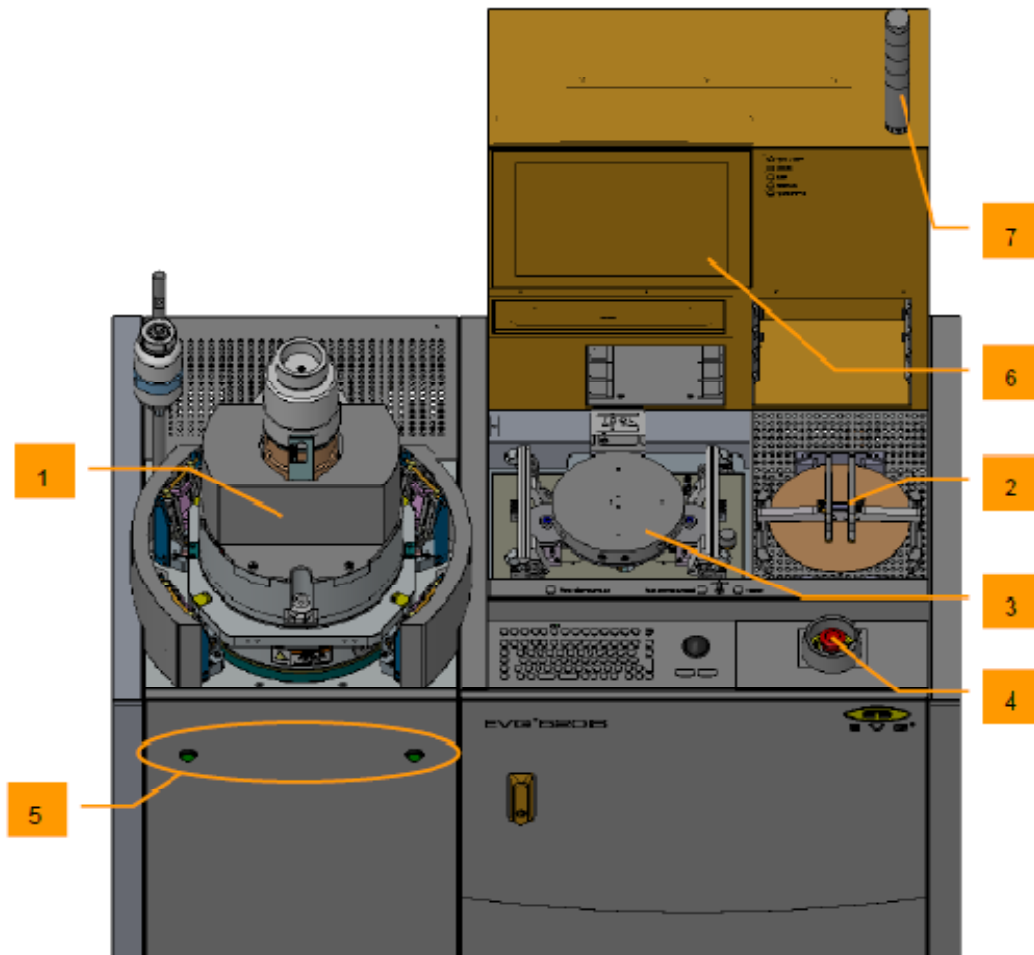

Figure 1, System Layout
7.1.2.1 Press and hold both chamber buttons simultaneously until lid is raised completely. See *Figure 1, System Layout*.
7.1.4 Remove bond chuck, place on cooling station. See *Figure 1, System Layout*.